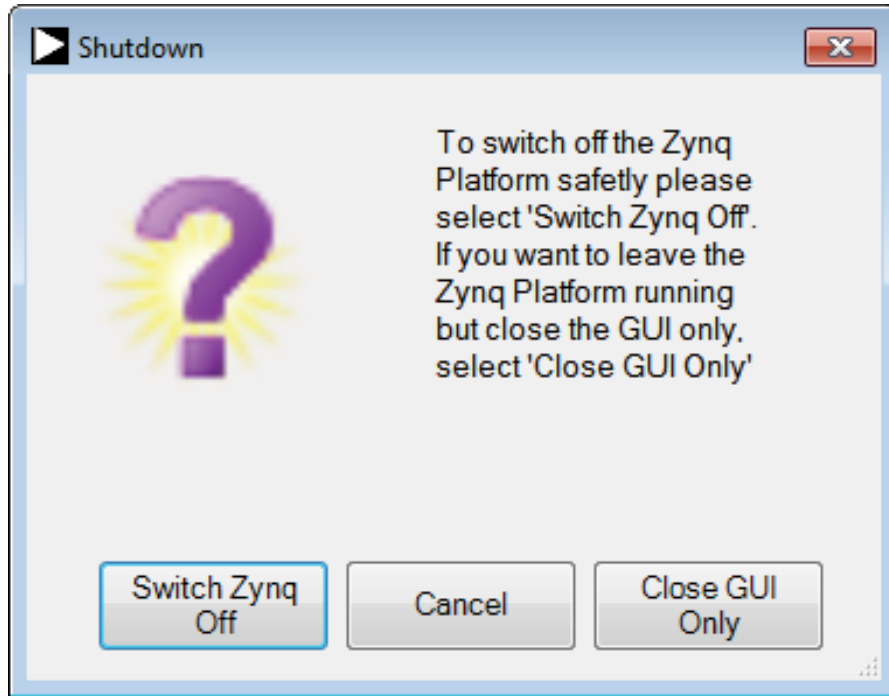

Figure 51. AD9375 SCES **Shutdown** Window
- **Exit** opens the **Shutdown** window, as shown in Figure 51. In this window, the user can select from the following options: